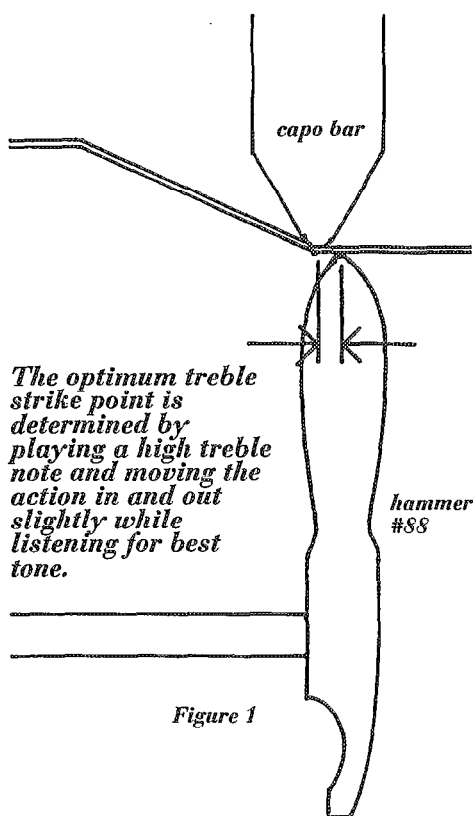

Figure 1
1) Hammers must strike the strings at the correct point for best tone. This is normally only an issue in the high treble, where differences in strike point as small as 1/32" can be easily heard. See Figure 1.